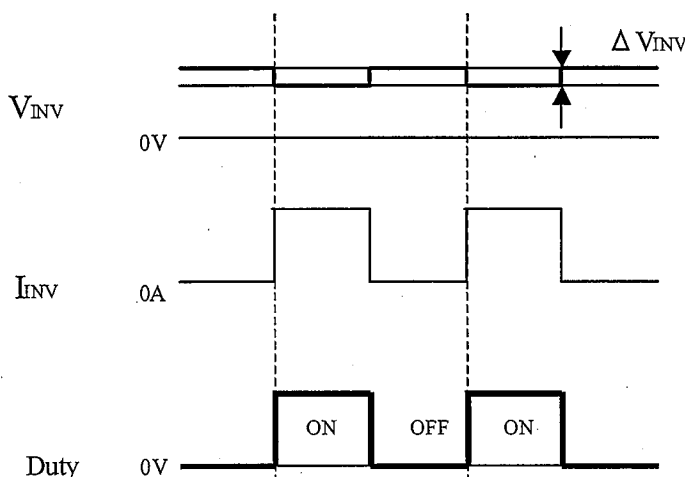

Fig.4 Brightness control voltage.
- Brightness control voltage is switched for "ON" and "OFF", as shown in Fig.4. Voltage difference generated by this switching,  $\Delta V_{INV}$ , may affect a sound output, etc. when the power supply is shared between the inverter and its surrounding circuit. So, separate the power supply of the inverter circuit with the one of its surrounding circuit.
Packing form figures are shown in Fig.4